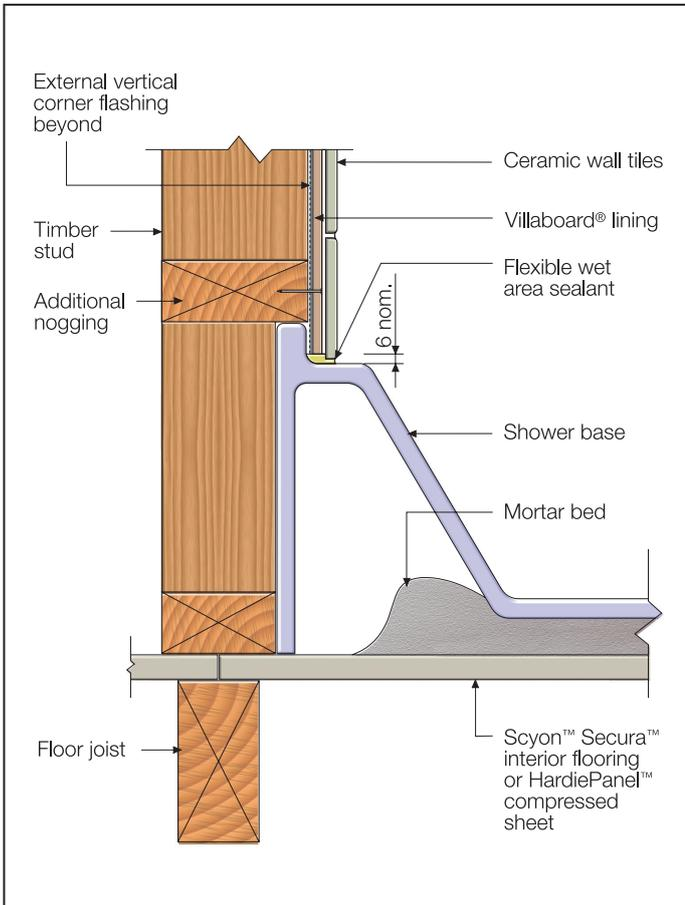

FIGURE 13 PREFORMED TRAY DETAIL FOR VILLABOARD LINING TO BE TILED
1. Where wall/floor junctions are flashed with an external angle (or when an external membrane or base is used), Villaboard® lining to be finished with tiles must not be fixed to bottom plates. In these cases, provide an extra row of noggings above top of the flashing/membrane for fixing Villaboard® lining. See Figure 13.
With Villaboard lining that will be tiled, sealing is required around preformed trays and bases, see Figure 13 respectively. These trays and bases are usually manufactured from plastic, fibreglass or stainless steel, in a variety of sizes and configurations. Preformed trays and bases must be installed to manufacturer's instructions.